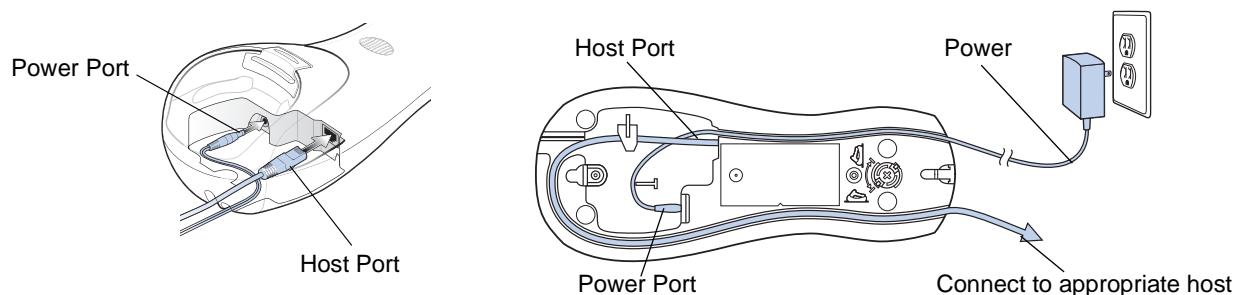

Figure 1-5 Connecting the Cables to the Cradle
1. If a power supply is connected to the cradle, disconnect it. See Figure 1-5.